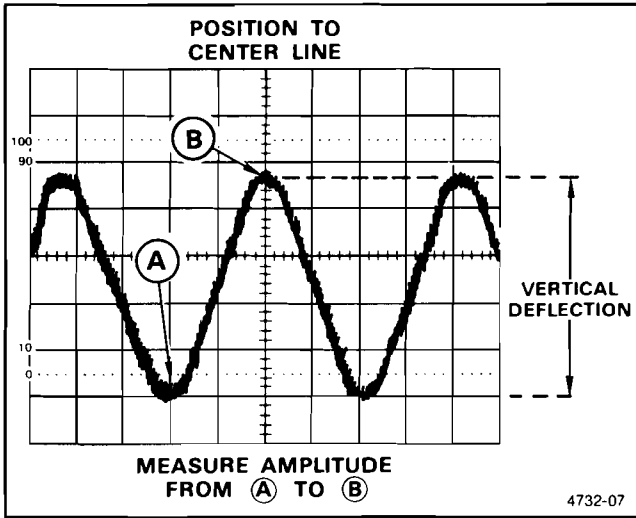

Figure 2-10. Peak-to-peak waveform voltage.
6. Vertically position the display so that the negative peak of the waveform coincides with one of the horizontal graticule lines (see Figure 2-10, Point A).
7. Horizontally position the display so that one of the positive peaks coincides with the center vertical graticule line (see Figure 2-10, Point B).
8. Measure the vertical deflection from peak to peak (see Figure 2-10, Point A to Point B).
**EXAMPLE:** The measured peak-to-peak vertical deflection is 4.6 divisions (see Figure 2-10) using a 10X attenuator probe with the VOLTS/DIV switch set to 5 V (at 10X PROBE setting).